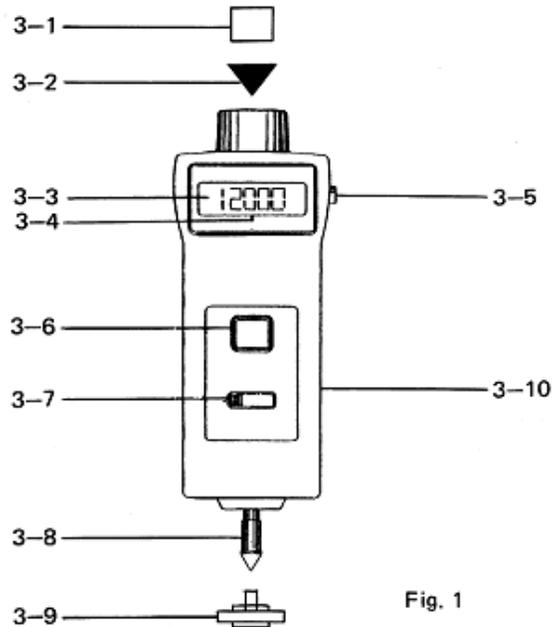

Fig. 1
2. To loose the screw on the battery cover (3-10 of figure 1) away from the instrument and remove the batteries.